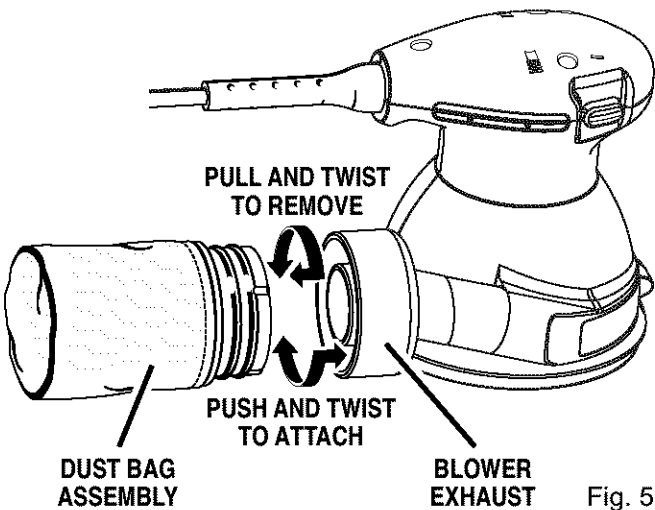

Fig. 5
See Figure 5.
- Using a slight twisting motion as shown in figure 5, firmly slide dust bag assembly in blower exhaust on sander.
See Figures 5 – 7.
- Remove dust bag assembly from sander and shake out dust. See Figures 5 and 6.